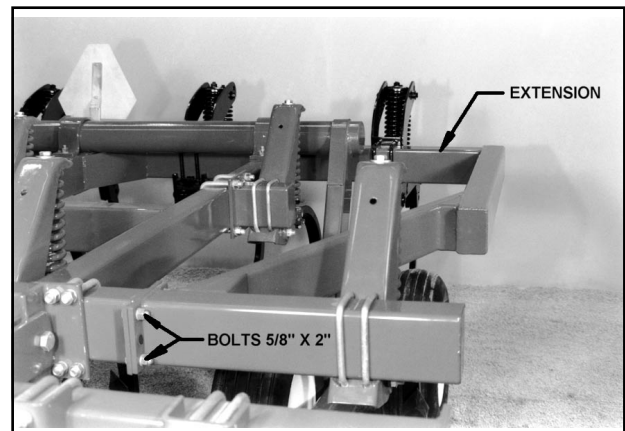

Figure 3-13 - Main Frame Extension
- Main frame extensions, 24" (**See Figure 3-13**).